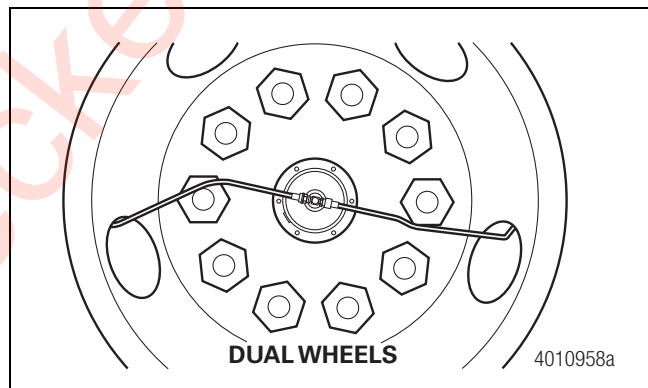
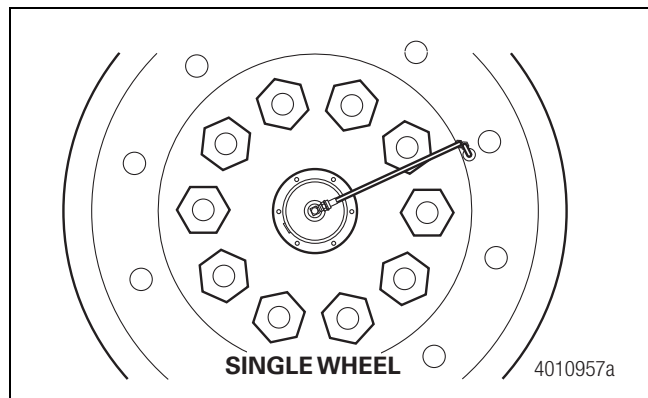

Figure 5.12
Figure 5.13
5. Follow the wheel manufacturer's instructions to reinstall the wheels. Verify that the thru-tee fittings point TOWARD the tire valve stems to ensure that you'll be able to correctly route the tire inflation system hoses. Figure 5.12 and Figure 5.13.